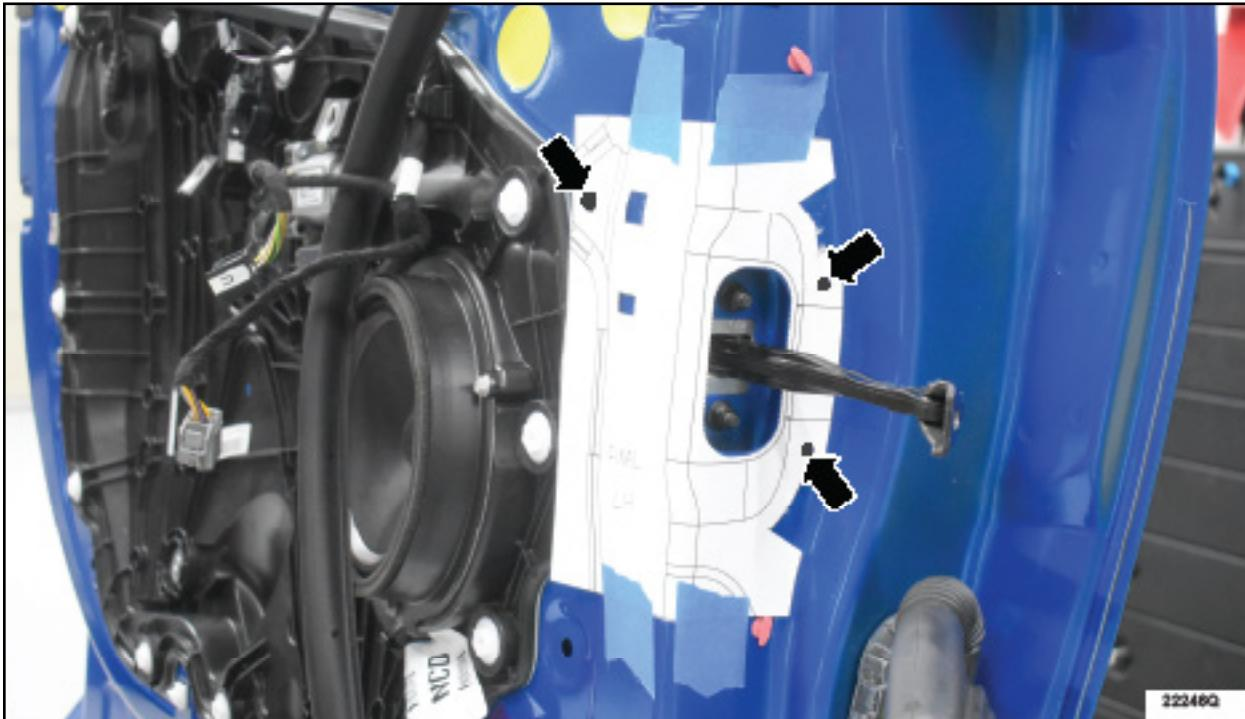

FIGURE 10
8. Install the template over the door check strap. Use the contours drawn on the template and the three (3) circles that were cut out to align the template in place, then tape the template down. See Figure 10.